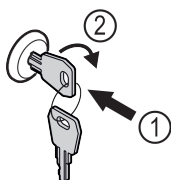

Fig. 92 Example illustration
- Insert key Fig. 92 (1).
- Turn key clockwise by 90° Fig. 92 (2).